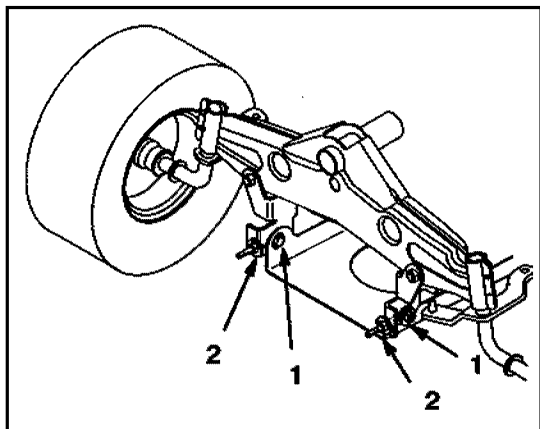

Figure 47
5. To adjust the front-to-rear pitch, loosen the front mounting plate bolts slightly (Figure 47).